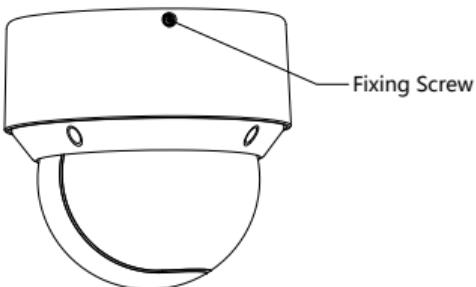

Figure 2-27 Tighten the Fixing Screw
After PTZIP4XX series (IR) PTZ camera is installed, tighten the fixing screw with a screwdriver as shown in Figure 2-27.